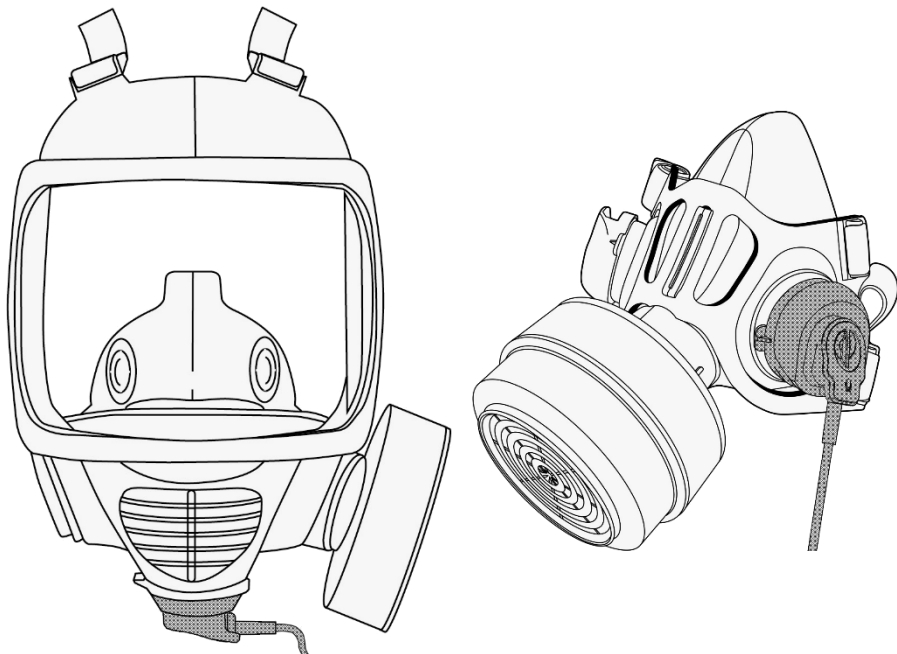

Figure 2: Tactical Air Purifying Respirator Microphone (TAPRM) Fitting
- Remove the original exhalation valve cover/cap from the exhalation valve on the bottom side of the full face mask or the left or right hand side of the half face mask or (Figure 2).